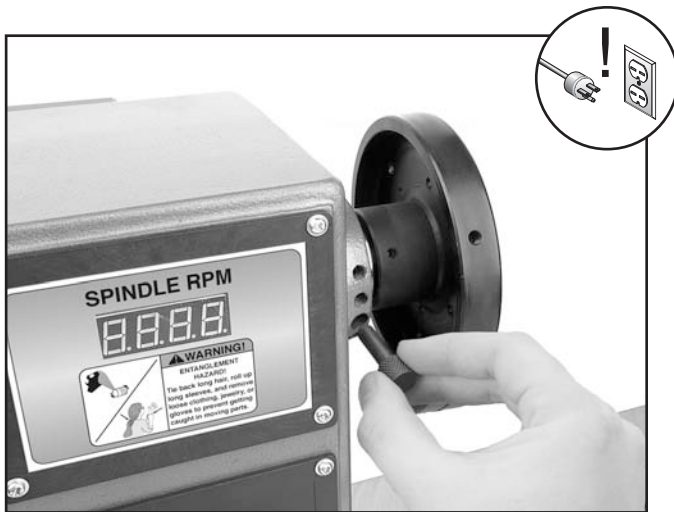

Figure 26. Locking spindle with indexing pin.
2. Thread the faceplate onto the spindle until it is snug. If necessary, insert the indexing pin into one of the indexing holes and rotate the spindle until the pin engages to prevent the spindle from turning while you tighten the faceplate (**Figure 26**).